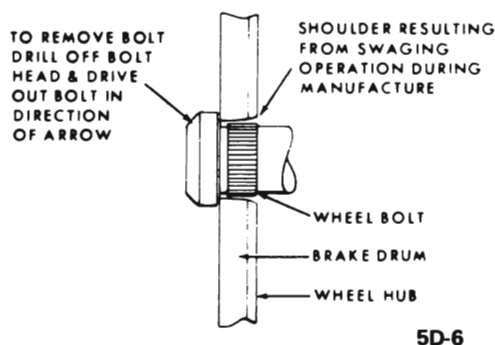

Figure 5D-6 Bolt Pressed Into Place
2. Secure hub and drum assembly in a vise and mark center of the bolt head with a center punch. Drill 1/8" pilot hole in head of bolt; redrill head using a 9/16" bit. Cut off any remaining portion of bolthead using a chisel and then drive out bolt with drift. See Figure 5D-6.